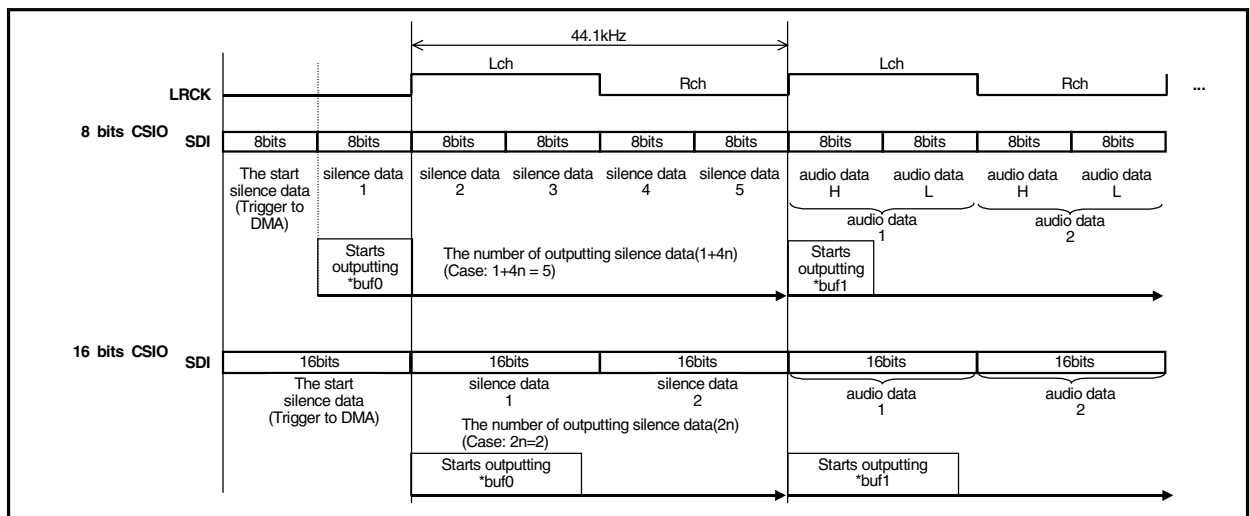

Figure 6. zero_cnt(silence data counter) and L/R channel output
(2) The start silence data (Trigger to DMA) shown in Figure 6